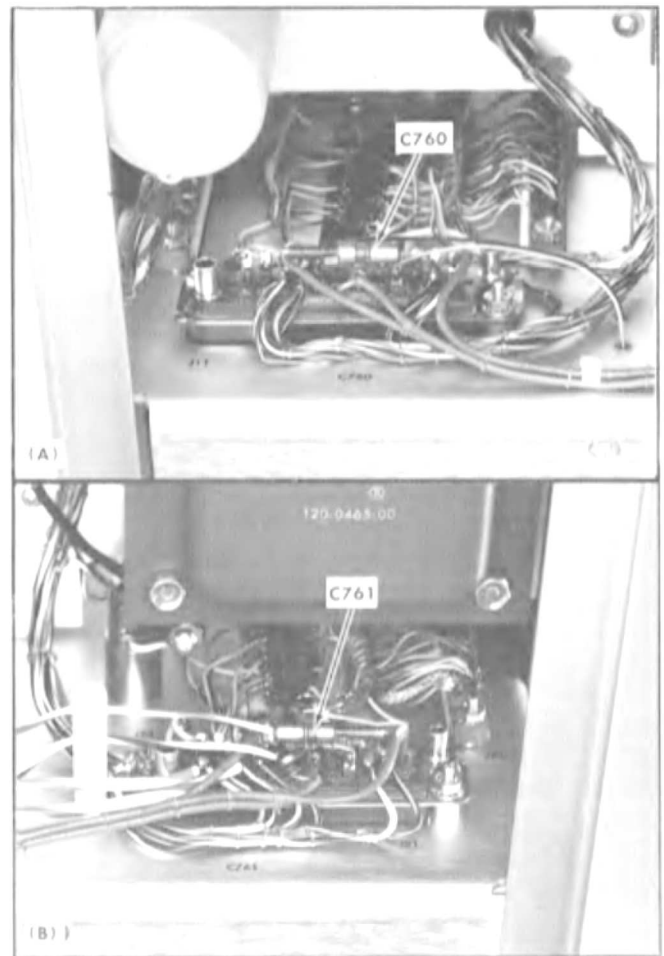

Fig. 6-15. Location of vertical and horizontal compensation adjustments, C760 and C761.
- Adjust—R855 High Voltage adjustment, (see Fig. 6-15) for -3300 volts.
e. Adjust—C760 (see Fig. 6-15).